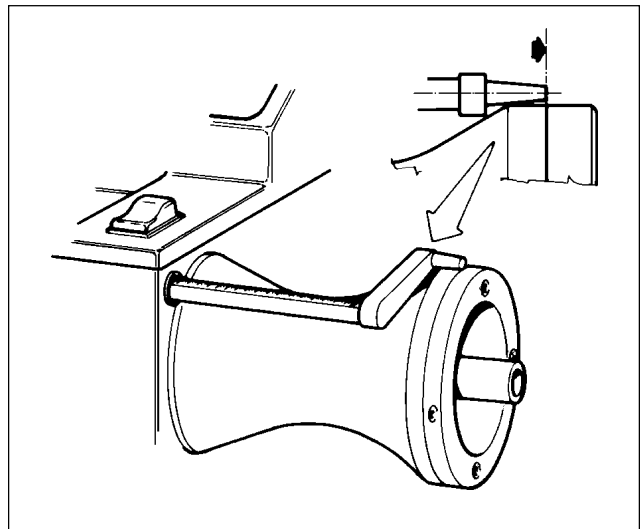

Fig.65
**C.** Move the gauge in contact with the outer diameter of the arbor (Fig.65). While holding the gauge in position, press **F**. The displays will show **[dia] [14]**.